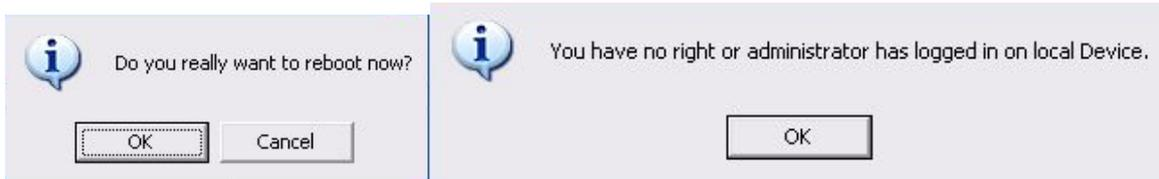

Figure 4- 11
**If someone is logging in system menu or you do not have the authority, you will see the following box as in the right picture in Figure 4- 11.**